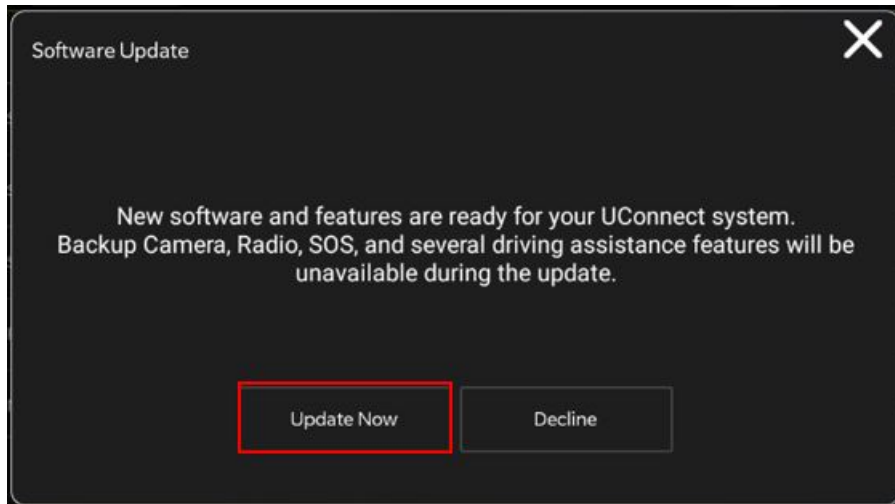

Fig. 4
11. Once the system has verified there is an available update, press the “Update Now” button. Make sure the vehicle is in park. **Do NOT turn the ignition off or drive the vehicle during the software update (Fig. 4) .**